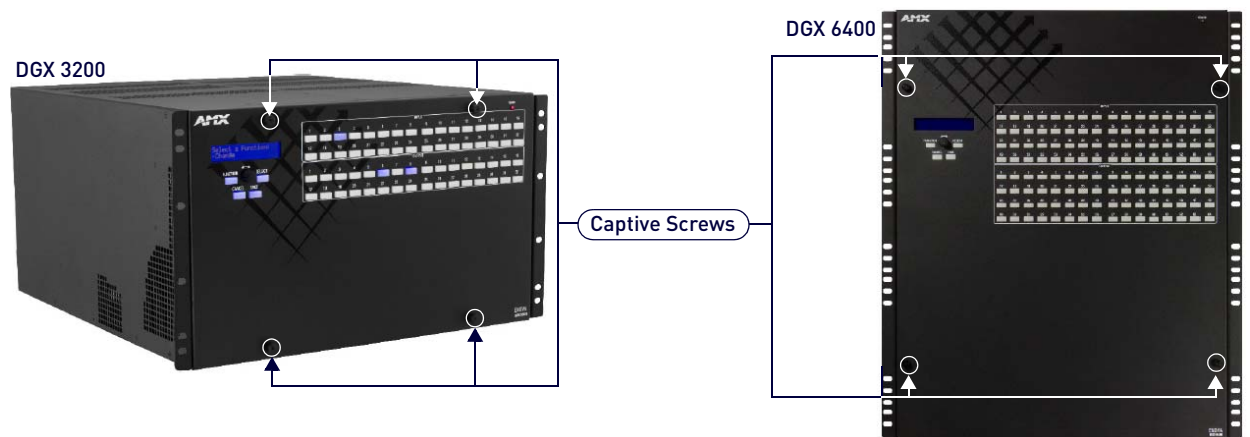

FIG. 142 Loosen 4 captive screws [screw location varies slightly depending on model]
2. Loosen the four captive screws on the control panel (FIG. 142):